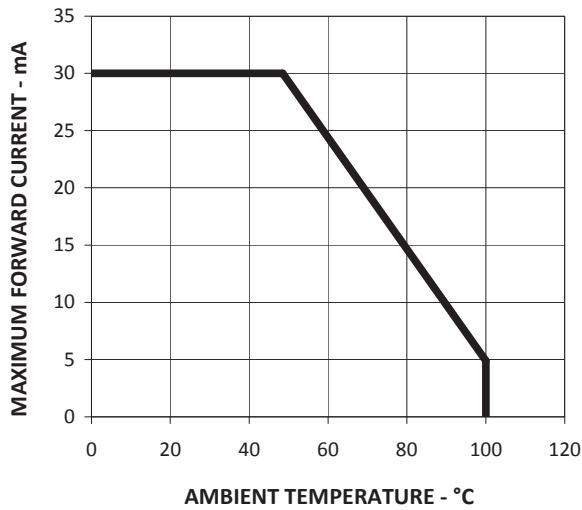

Figure 4. Maximum Forward Current Vs. Ambient Temperature. Derated Based on $T_{JMAX} = 110^{\circ}C$, $R\theta_{JA} = 500^{\circ}C/W$
1. Derate linearly as shown in Figure 4.